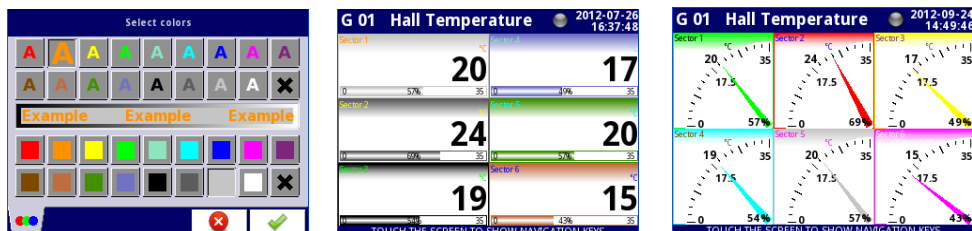

Fig. 7.137. Style color select screen and examples of views with changed styles
- **Style** – defines the color which will be used to draw the logical channel selected in this **Slot**. The user can specify the font color in the channel (except value color) and the drawing color of all elements connected with channel visualisation (see Fig. 7.137). By using black **X** buttons the user can return to default settings.